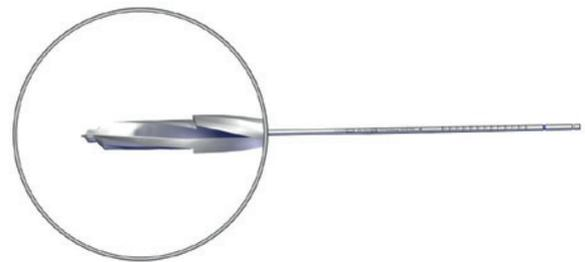

Fig. 62 Drill profile
Locate screw hole position under fluoroscopy and perform a 1-2cm incision. Bluntly dissect through the tissues to create a soft tissue tunnel to gain access to the bone. With the assistance of the tissue guide, drill bi-cortically ensuring the distal tip of the drill penetrates the far cortex (Fig. 62).
**PRECAUTION:** Make sure the white ring (see blue circle in Fig. 62) is in connection with the start of the coupling.